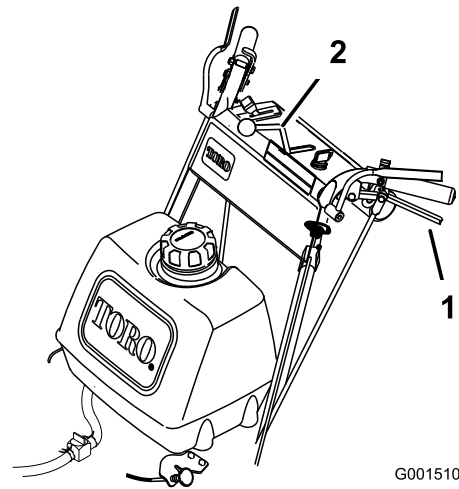

Figure 13
4. Slowly release the drive levers to move forward (Figure 13).
To go straight, release drive levers equally (Figure 13).
To turn, squeeze the drive lever on the side and direction you want to turn (Figure 13).
From neutral, slowly squeeze the drive levers to move rearward (Figure 13).